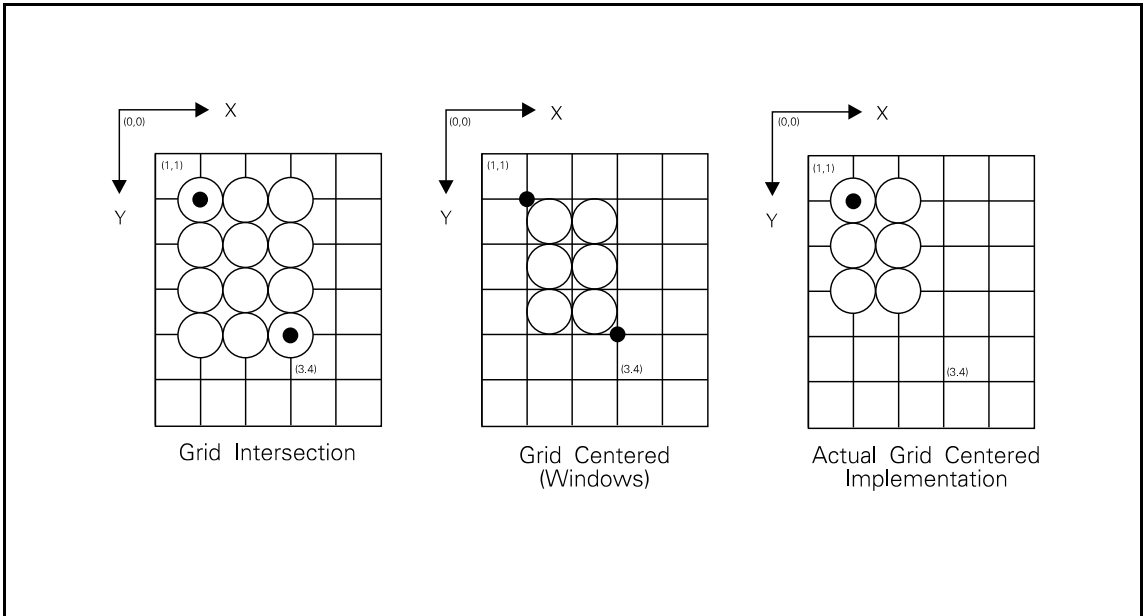

Figure 1-1. Pixel Placement
The following example (Figure 1-1) illustrates the concepts of the two models. Assume a rectangle extends from coordinate position (1,1) to position (3,4). As shown below, each model produces a different result. (Since PCL printers print only at intersections, grid centered pixel placement is implemented as shown on the right.)
- 0 = grid intersection; device draws pixels centered at grid intersections (see Figure 1-1).
- 1 = grid centered; device draws pixels centered inside the boxes created by the grid (see Figure 1-1).